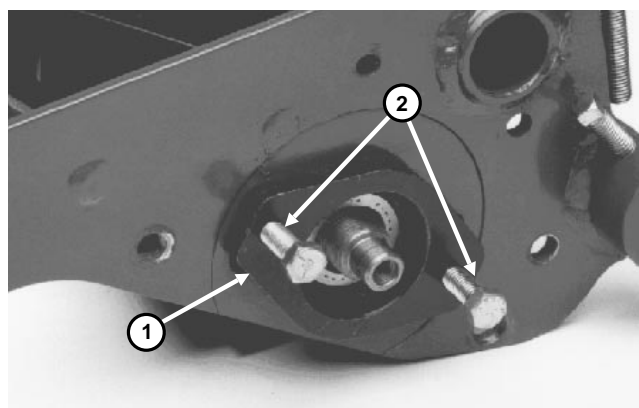

Figure 30
4. Use a plastic headed hammer to rotate bearing housing slightly, install bolts from outside of housing and turn bolts alternately against side plate to remove bearing housing (Fig. 30). Bearing housing will slip out of side plates and reel assembly can be removed as soon as bearing housings are disassembled from side plates.